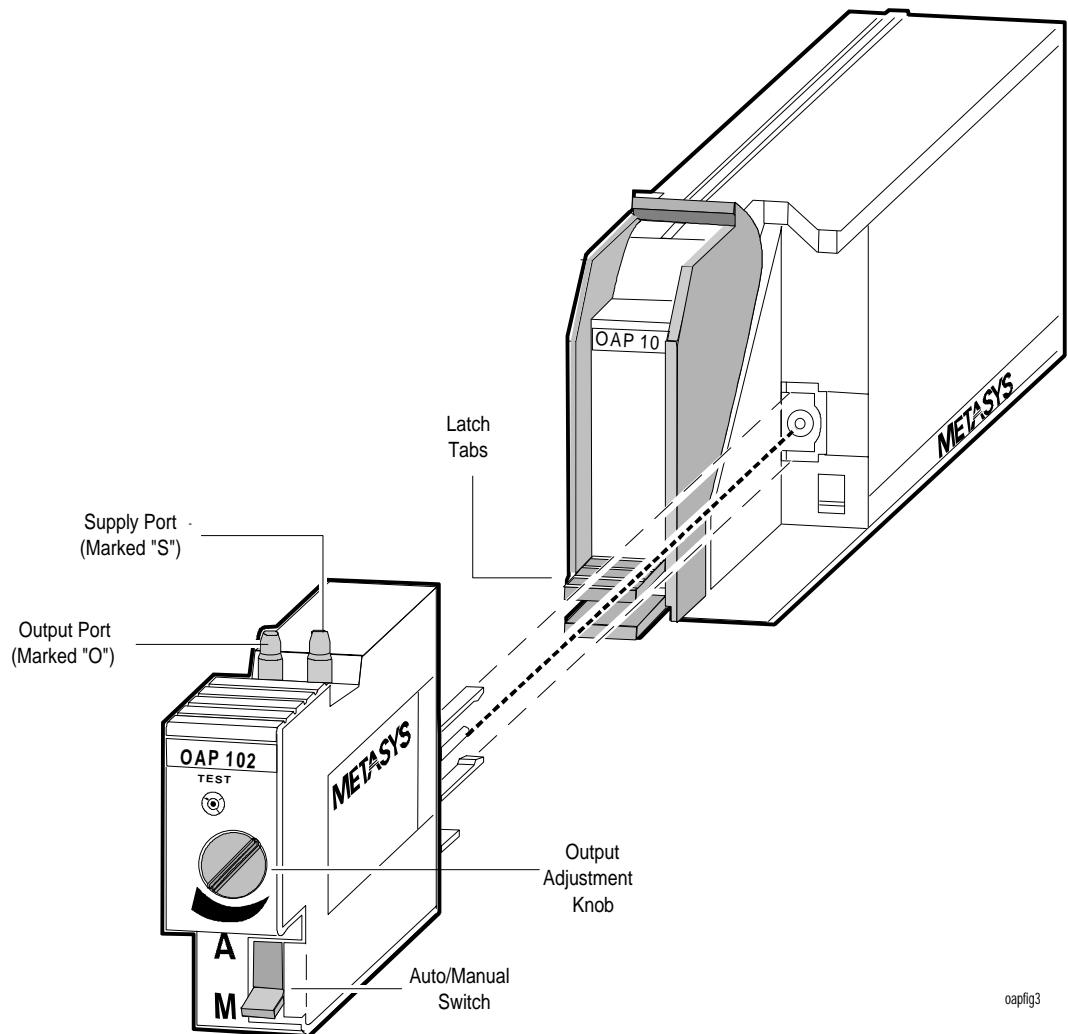

Figure 3: OAP Function Module Assembly
3. Open the latch on the OAP101 or OAP103 by squeezing together the vertical blue latch tabs on the front of the module and swinging the latch open. See Figure 3.
6. Set the Auto/Manual switch on the corresponding OAP102 to Manual (M). See Figure 3.
8. Connect the supply pressure line to the port marked “S” and the output line to the port marked “O” on the OAP102 as in Figure 3.